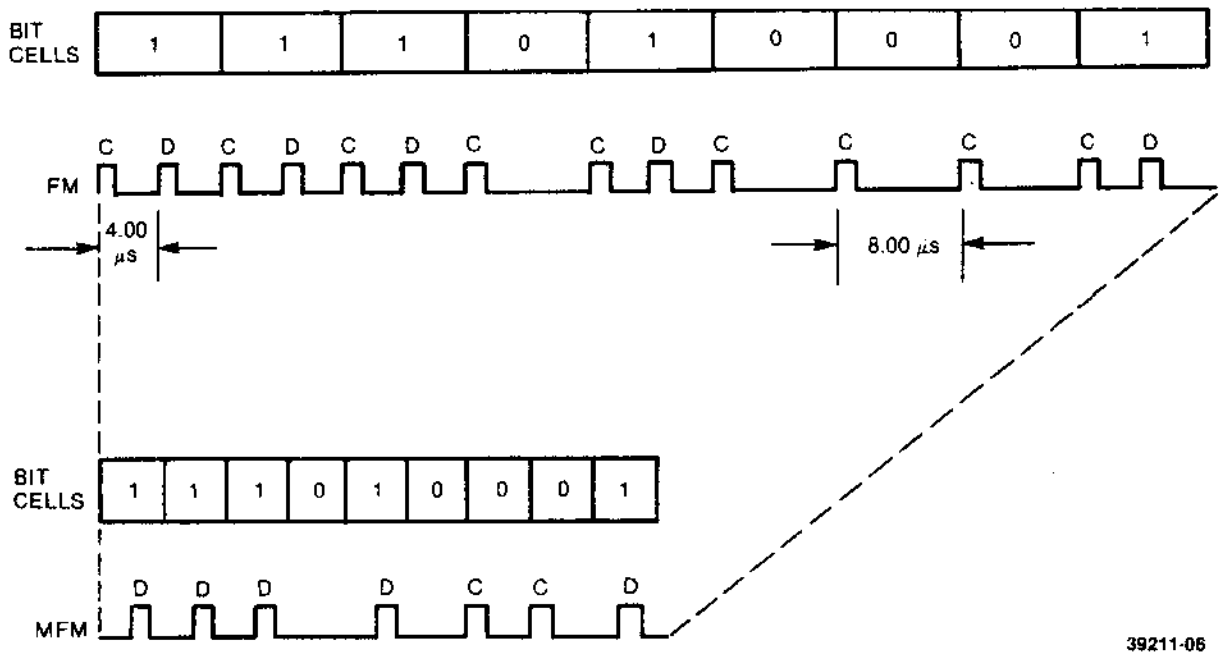

FIGURE 1-6. FM AND MFM CODE COMPARISONS
The encoding scheme of the recorded data can be either FM or MFM. FM encoding rules specify a clock bit at the start of every bit cell (see figure 1-6). MFM encoding rules allow clock bits to be omitted from some bit cells, with the following prerequisites:
- The clock bit is omitted from the current bit cell if either the preceding bit cell or the current bit cell contains a data bit. See figure 1-6.